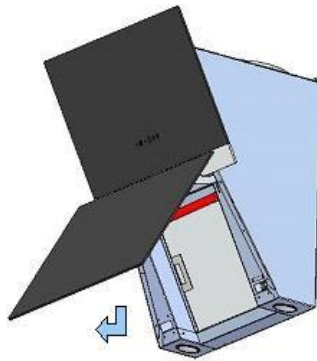

Fig. 5
- The kitchen hood technical parameters are given for working position of the decorative plate (Fig. 5)
2. Open the glass element (Fig. 5)